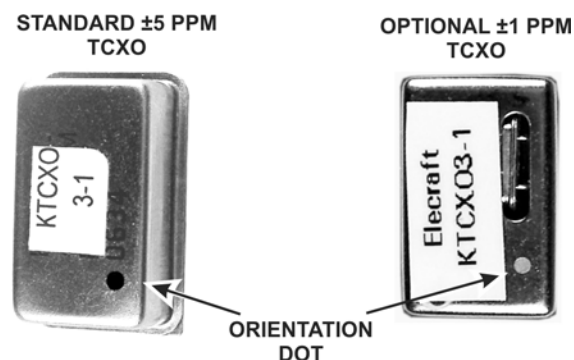

Figure 67. TCXO Modules.
- Locate the Temperature-Compensated Crystal Oscillator (TCXO) module. If you ordered the optional ± 1 ppm TCXO it will be supplied *instead* of the standard 5 ppm module (see Figure 67).